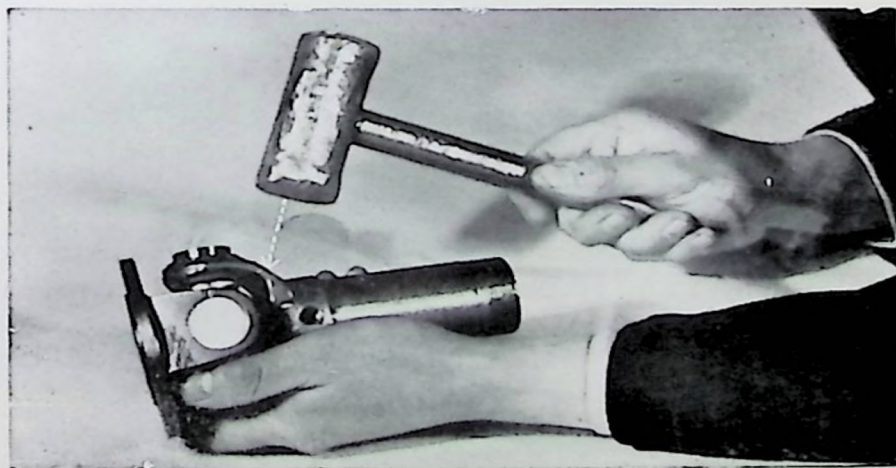

Fig. 1
When this adjustment has been made a minimum clearance of one-sixteenth of an inch (6) (Fig. 1) between Graphite Release Bearing and Release Lever Plate should be obtained.
To remove clutch from flywheel (1) it is necessary to remove the holding screws (2) (Fig. 1). Loosen each of holding screws a turn or two at a time until the spring pressure is relieved (this
should be carefully done to prevent springing the flanged edge of cover). The screws can then be removed and the complete clutch lifted off the flywheel, all parts except driven plate (3) (Fig. 1) being assembled to the cover.
2. Holding the joint in one hand, tap gently with a piece of copper or copper hammer on the radius of the ear of the yoke as shown in Fig. 1. The needle bearing will gradually emerge, and can finally be removed with the fingers. Be sure to hold the bearing in a vertical position, and when free remove race from the bottom side so as to avoid dropping the needle rollers (see Fig. 2).
THE brake shoes are pressed from solid drawn "T" section steel, and are operated by the expander shown in Fig. 1. The hardened steel cone (1) which is actuated by the pull rod (2) causes the plunger (3) to move outwards. Hardened steel rollers (4) are interposed between the cone and the plungers to reduce friction to a minimum. The plungers engage directly with the brake shoe webs. The whole expander mechanism is enclosed in a die cast housing (5) which contains a supply of lubricant (Duckham's Keenol Grease K.G.20) and protects the moving parts from mud, etc. This housing is slidably attached to the backplate (6) by studs and spring washers (7) which provide a slight frictional contact. The housing does not withstand any of the stresses set up by braking as it virtually floats between the brake shoes. In view of this fact it will be realised that the brake shoes are self-centering under the influence of the brake shoe pull-off springs. It will be noticed that the rollers (4) are freely mounted and roll up grooves in the plunger and down the inclined face of the cone. When shoes are removed for relining, pin (8) retains the plungers in position in the housing. This type of shoe expander provides a high step-up ratio and multiplies the low input effort of the pull rods very considerably (6.3 to 1).